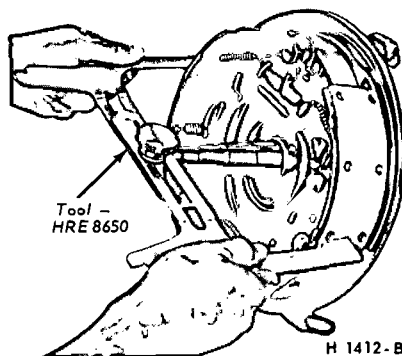

FIG. 12—Measuring Shoes
2. Reverse the tool as shown in Fig. 12 and adjust the brake shoe diameter to fit the gauge. Hold the automatic adjusting lever out of engagement while rotating the adjusting screw, to prevent burring the screw slots. Make sure the adjusting screw rotates freely. If necessary, lubricate the adjusting screw threads with a thin, uniform coating of CIAZ-19590-B Grease.